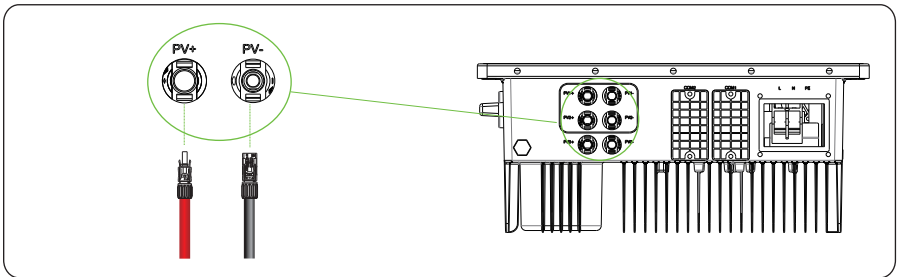

Figure 5.17 Connecting to the inverter
Step 6 Insert the positive and negative connectors into their corresponding terminals of the inverter until a "click" sound is heard, as shown in Figure 5.17.